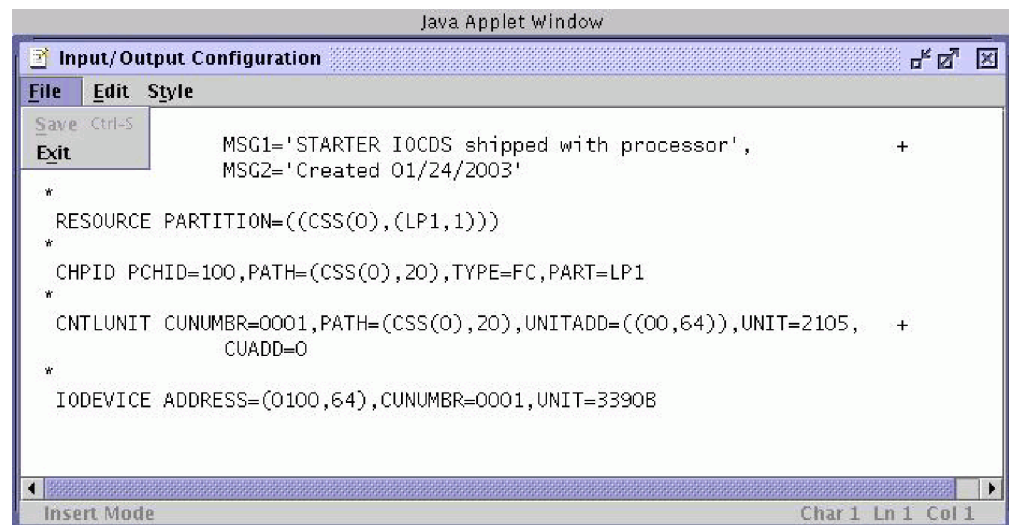

Figure 2-15. File Actions
The next section discusses the actions under each menu item. When you select a menu item, this displays a pull-down listing the actions under it (as shown in Figure 2-15). There are several ways to perform an action:
**File:** Figure 2-15 shows the **File** actions.